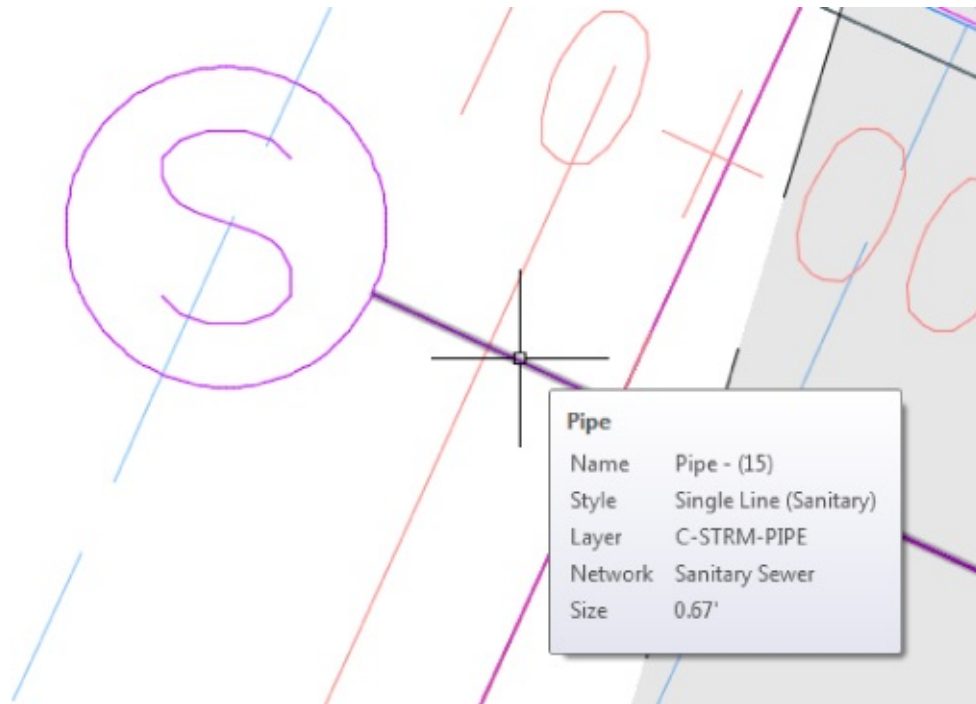

Figure 17.17 Tooltip for a pipe without an assigned pay item
4. The tooltip will appear indicating the pipe information but no pay item, as shown in Figure 17.17.